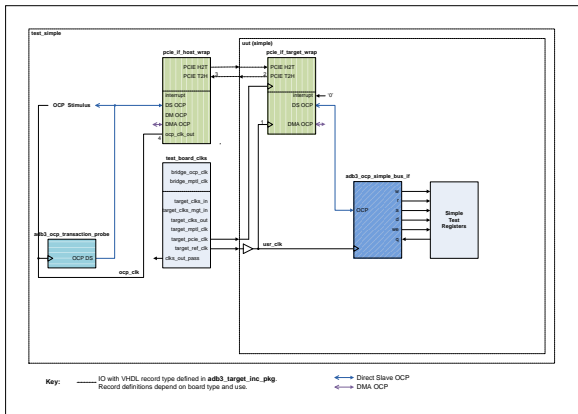

Figure 11: Simple Design Testbench and Top Level Block Diagram (PCIe)
**Figure 11** shows the testbench and embedded **simple** FPGA design (PCIe).
- The testbench OCP clock ocp\\_clk\\_out path is shown in Figure 11 as the route consisting of points 1, 2, 3 and 4.